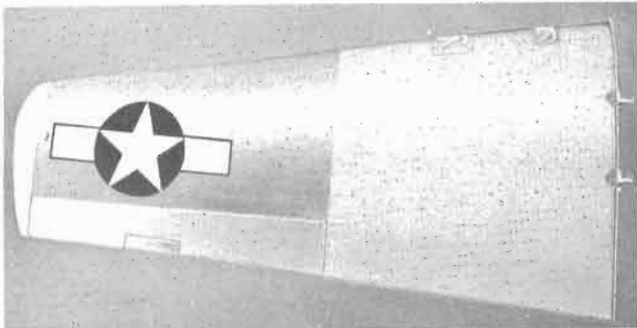

Figure 50 — Wing Outer Panel —
(2) OUTER WING PANELS.—(See figures 50 to 55.)—The outer wing panels and the center section are joined by external bolting angles along the upper, lower, and leading edge skin surfaces. Each outer panel incorporates an angle of incidence of plus 2 degrees at the root which gradually changes to an angle of incidence of 0 degrees at the tip. Both panels are bolted to the center section at a dihedral angle of 5 degrees 41 minutes measured along the leading edge and have a NACA 2215 airfoil section at the root, tapering to a NACA 4412 airfoil section at the tip. They are constructed of 24ST Alclad sheet, 24ST aluminum-alloy extrusions and sheet, and Alclad rolled sections, consisting of one main spar, power-pressed ribs, and skin which is stiffened in a spanwise direction by stringers. The lap-jointed skin panels vary from .020 to .051 inch in thickness. Type AD rivets (A17S aluminum) are used for assembly, all skin riveting being flush to approximately 35 per cent chord on the top skin and to 10 per cent chord on the bottom skin. Each outer panel incorporates a trailing edge split-type wing flap and aileron which extends from the flap to the wing tip. Navigation lights are installed just inboard of each wing tip on both the upper and lower surfaces of the wing. Lights in the left wing are red; those in the right wing are green. A landing light is installed in the leading edge of each outer wing panel and a red passing light is installed in the left outer panel adjacent to the landing light in the same bay. Cover